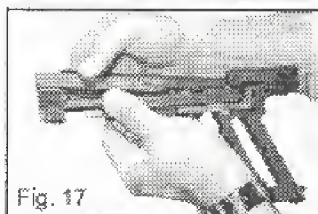

Fig. 17
5. Remove the upper barrel shroud by unscrewing shroud screws and then by pushing the shroud to the rear of the pistol and pushing the rear of the shroud in a downward movement. The front of the shroud should move up and then you should be able to remove the shroud in an upward and outward motion. (See Fig: 17)